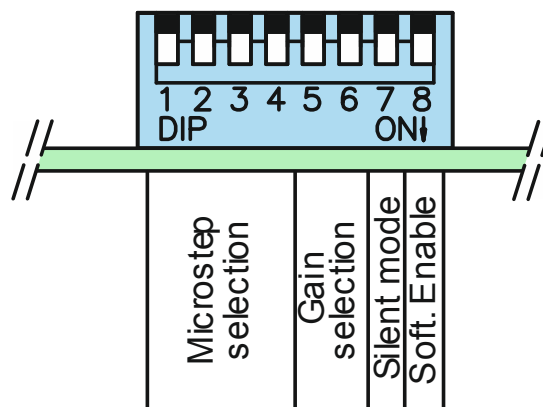

Figure 4.14 DIP switches function description
The setting of the operating parameters of the microstep drive MST-109 is done using an 8-position DIP switch. It is set using a DIP switch (Figure 4.14):
DIP switches in positions 1, 2, 3 and 4 (Figure 4.14) provide the choosing of 16 different microsteps option as shown in Table 4.2. Choice of binary and decimally microstep values is possible.
Gain is a suggestion to the built-in stepper drive current regulator for the desired mode of operation (more or less aggressive). It is possible to choose 4 different levels of amplification. DIP switches in positions 5 and 6 are used for that purpose (Figure 4.14). The choice of gain depends on the inductance of the stepper motor. Table 4.3 gives possible gain choices. The stepper motor coil inductance value can be found in the technical documentation that comes with the stepper motor.
The microstep drive MST-109 provides the option of silent operation when the stepper motor do not rotate. The selection is made using the DIP switch in position 7. When the DIP switch 7 is “down” (↓), ie. is “one” (1) (Figure 4.14), then the Silent mode of operation is active. Otherwise, it is inactive.
The DIP switch in position 8 (Figure 4.14) provides the possibility of choosing two Enable modes of operation: